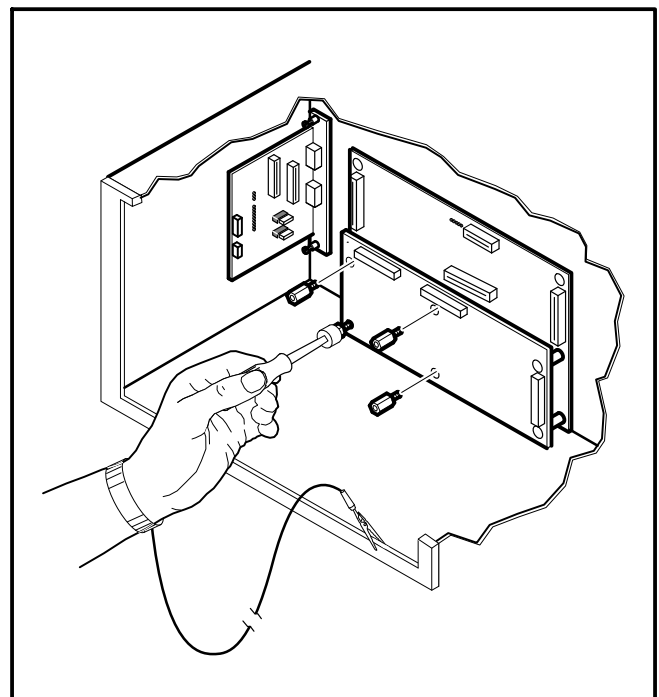

FIGURE 8-4. INSTALLING STANDOFFS
6. Install four new standoffs in place of the analog board mounting screws removed in step 5 (Figure 8-4). Tighten the standoffs securely.